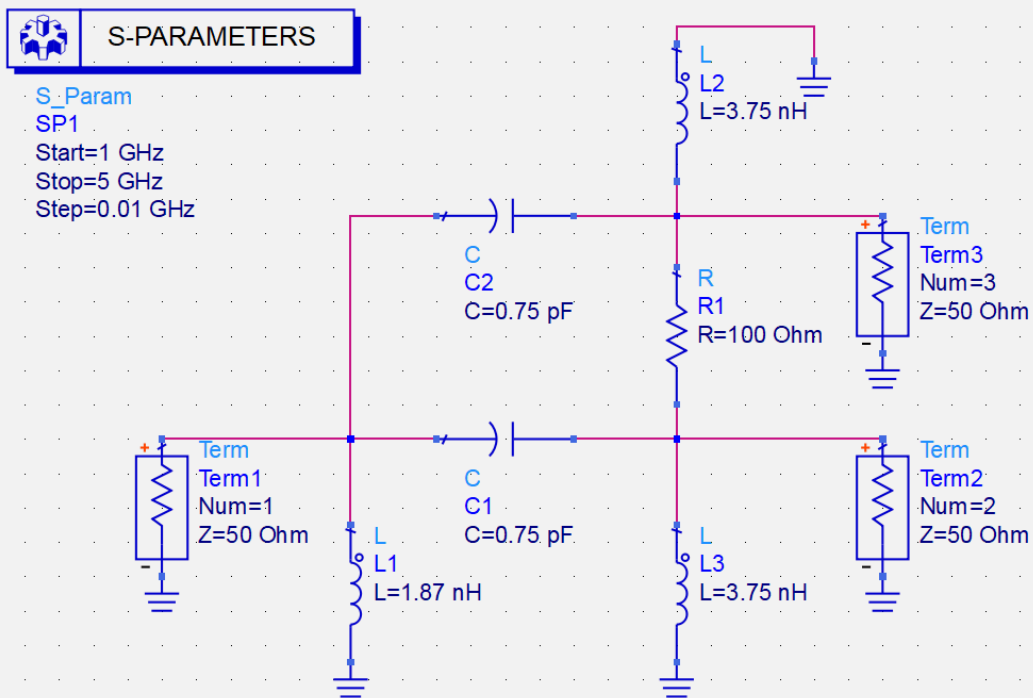

Figure 12. Completed schematic for Wilkinson Power Divider
2. From the Lumped Components library, select the appropriate components. Click to place them in the schematic, as shown in Figure 12.